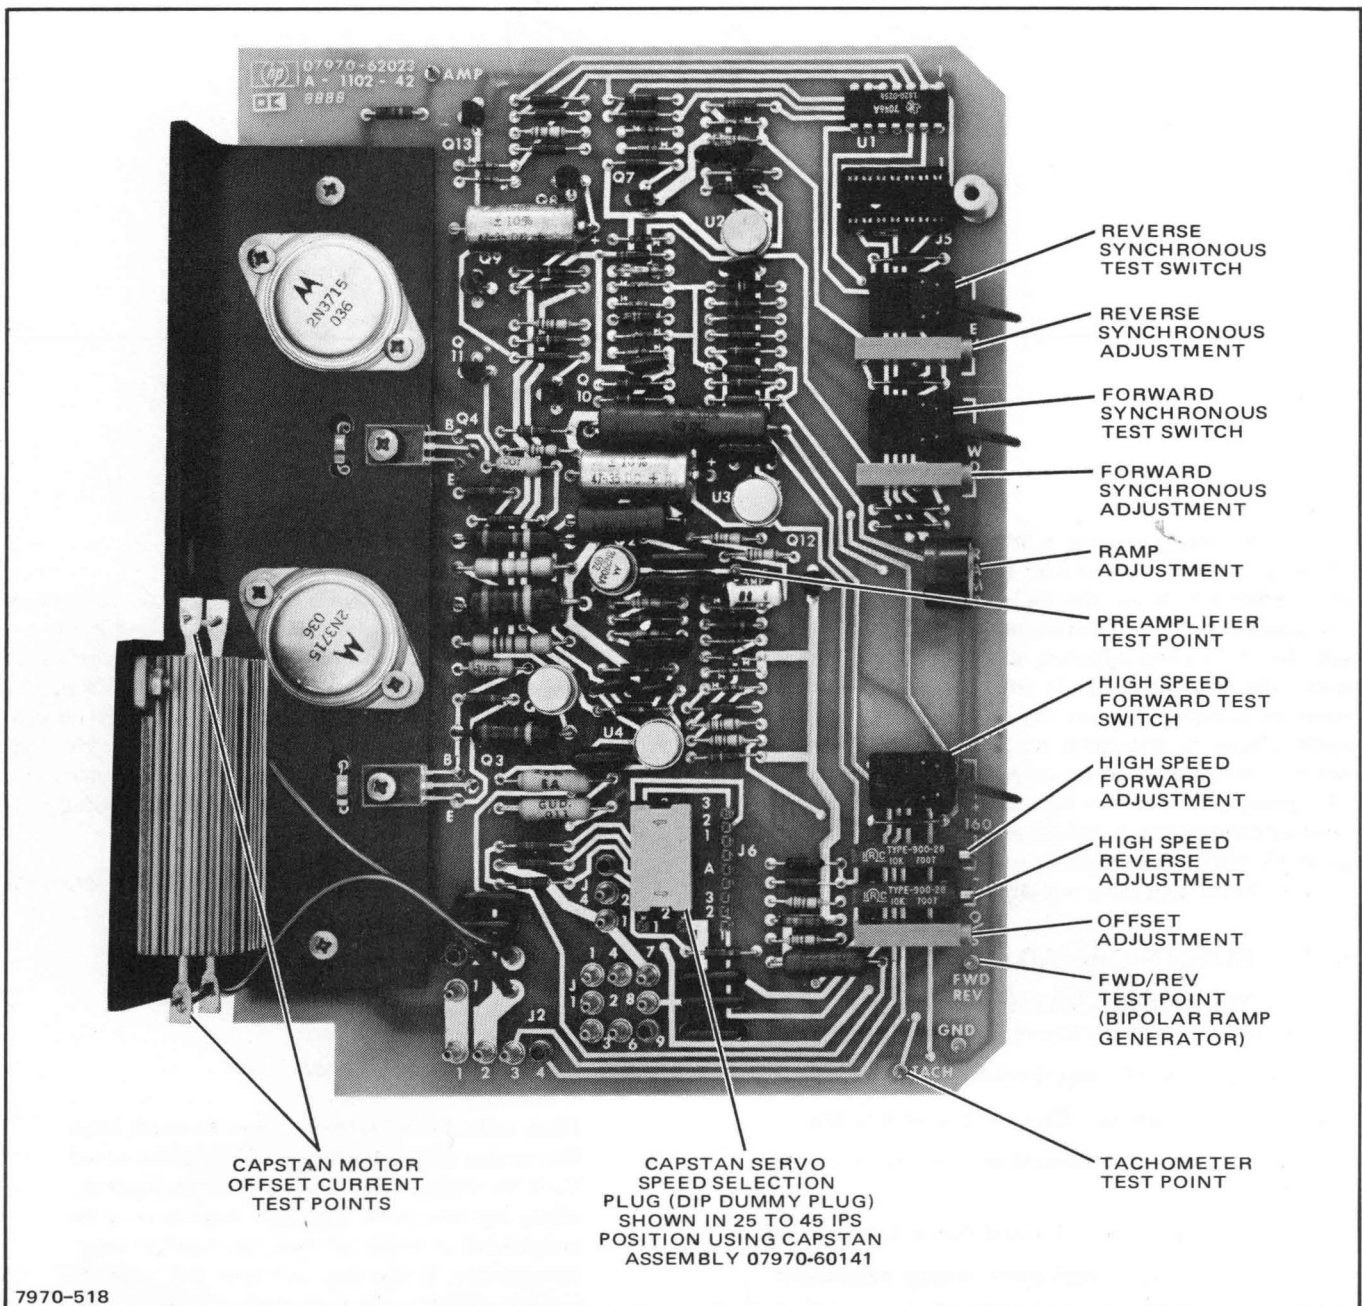

Figure 5-3. Capstan Servo PC Assembly, Test Points and Adjustments
5-24. Prior to making the capstan motor offset current adjustment, verify that the power supply voltages have been adjusted. Figure 5-3 shows the location of the capstan motor offset adjustment variable resistor.
and offset current are within tolerance. Figure 5-3 shows the location of service switches and forward and reverse drive adjustment potentiometers.
b. Place unit in high-speed forward mode with the high-speed forward (+160) service switch (figure 5-3), and use the high-speed forward (+160) adjustment (R53) to adjust speed until counter indicates $53,333 \pm 100$ Hz. No adjustment is required if counter indicates between 52,533 and 54,133.
5-33. The high-speed reverse adjustment is identical to the high-speed forward adjustment, except that the local REWIND control is used to place the unit in the high-speed reverse mode and the high-speed reverse (-160) adjustment variable resistor (R60, figure 5-3) is used.
c. Adjust the capstan servo PC assembly RAMP control (See figure 5-3.) to obtain the time listed in table 5-1 for tape unit synchronous speed. Use the vertical gain vernier control of the oscilloscope to expand the waveform so that the 90% point may be conveniently measured.